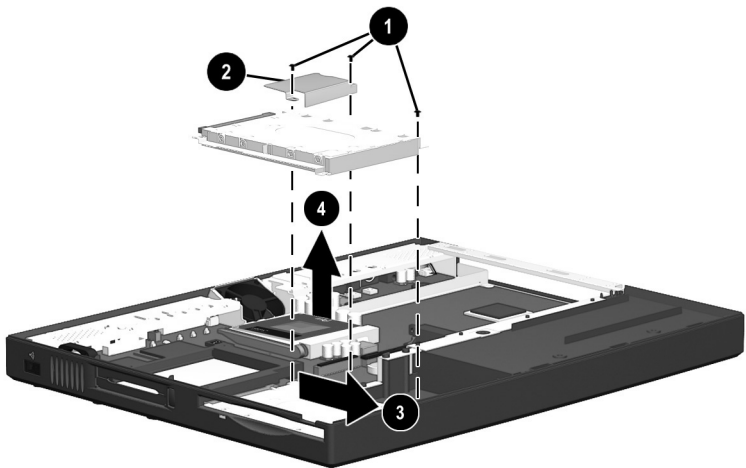

Figure 5-20: Removing the Hard Drive
2. Remove the three M2.5 × 5.5 screws ❶ securing the hard drive and hard drive bracket to the base enclosure (Figure 5-20).
3. Remove the hard drive bracket ❷ from the base enclosure.
4. Slide the hard drive toward the front of the base enclosure ❸ to disconnect it from the system board.
5. Remove the hard drive from the base enclosure ❹.